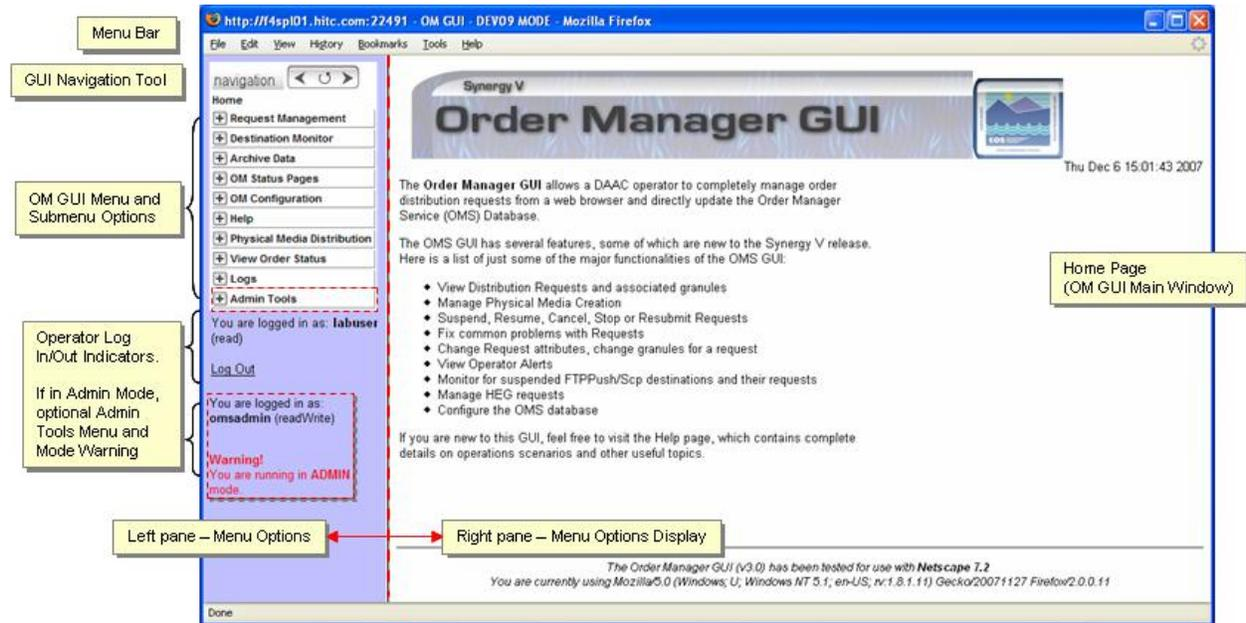

Figure 15.4-2. Order Manager Home Page
- The **Order Manager GUI Home Page** (Figure 15.4-2) displays.